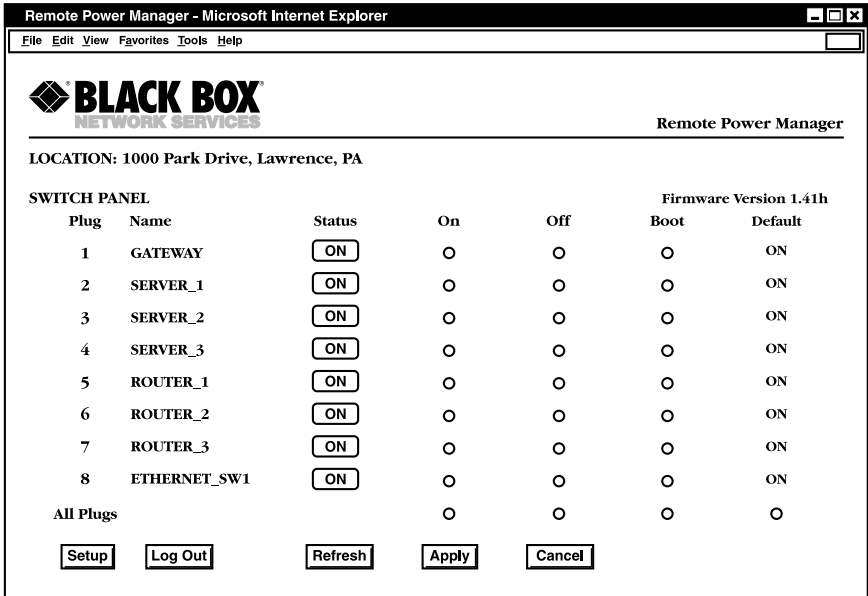

Figure 4-1. Plug Status screen—Web browser interface.
If a valid password is entered, the Plug Status screen will appear as shown in Figure 4-1. Option buttons include Setup (to access configuration menus), Log Out (to exit the system), Refresh (to refresh the screen), Apply (to save your selections), and Cancel (to start over without saving).
- Web browser interface: Click on the **Setup** button in Figure 4-1 to gain access to the configuration menus. A row of buttons will appear along the left edge of the screen. Click on the appropriate button to access the desired menu.